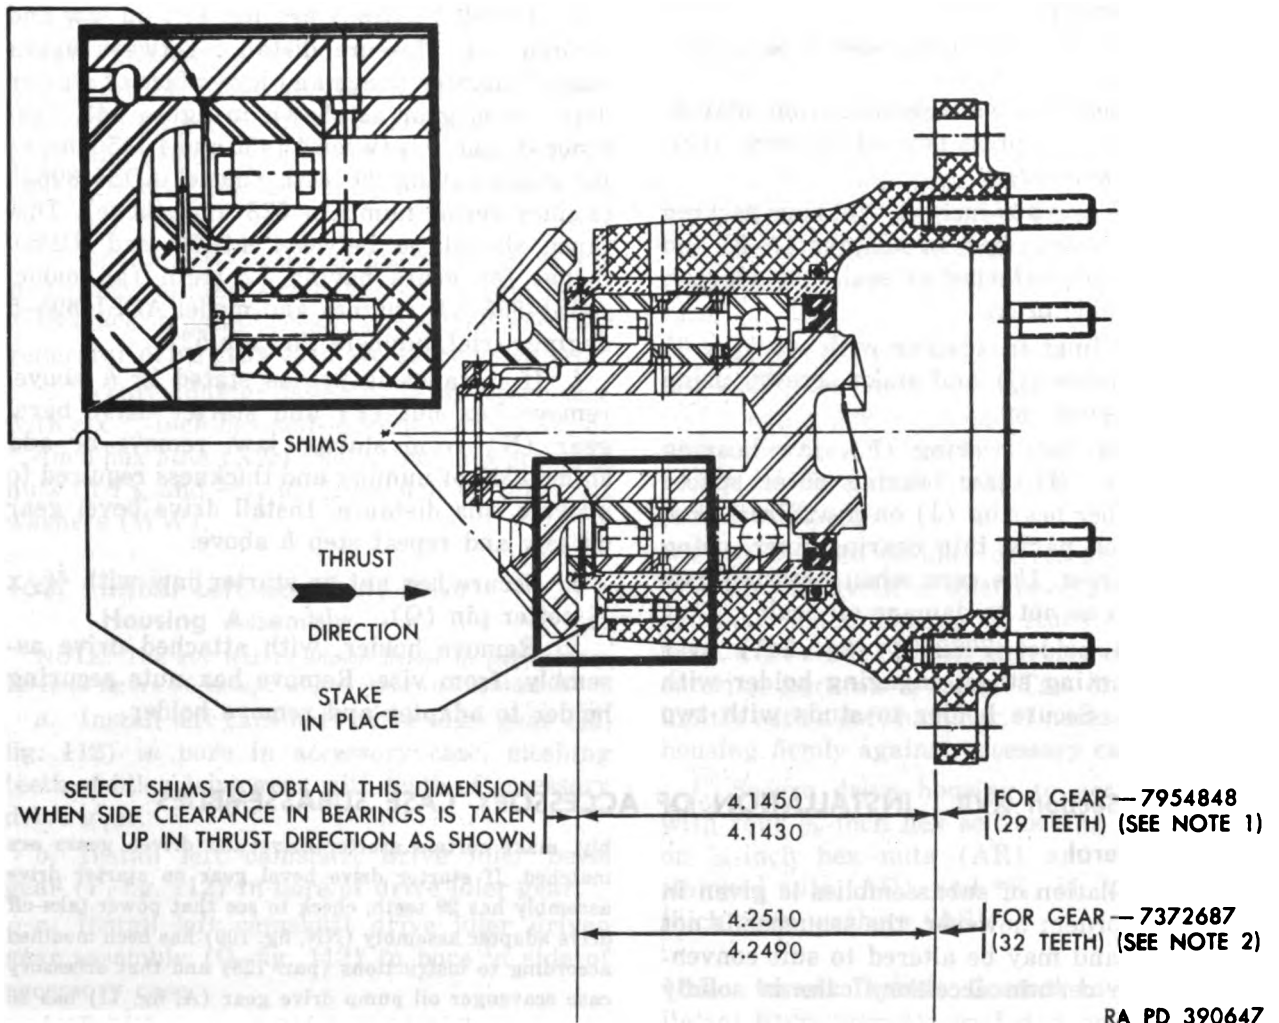

Figure 143. Determining shim thickness for starter drive bevel gear.
h. Install 1⅝-inch hex nut (P) on jaw and tighten nut. Measure distance between upper face of adapter flange and lower face of starter drive bevel gear as shown in figure 143. Distance should be between 4.1430 and 4.1450 inches for gears having 29 teeth (model AOSI-895-5 engines serial numbers 528 and above). Distance should be between 4.2490 and 4.2510 inches for gears having 32 teeth (all model AOSI-895-5M engines and model AOSI-895-5 engine serial numbers through 527).
i. If distance is not as stated in *h* above, remove hex nut (P) and starter drive bevel gear (N) from starter jaw, remove or add shims (M) of number and thickness required to provide this distance. Install drive bevel gear on jaw and repeat step *h* above.
j. Secure hex nut on starter jaw with ⅜ x ½ cotter pin (Q).